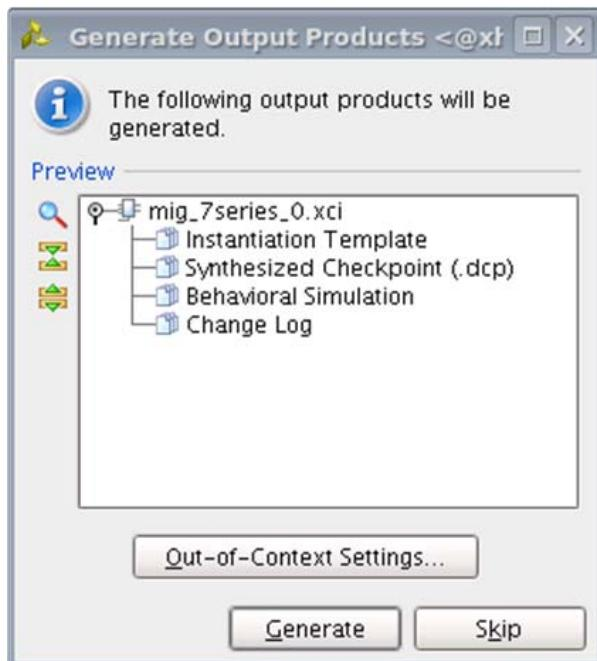

Figure 1-29: Generate Output Products Window
1. After clicking **Generate**, the **Generate Output Products** window appears. This window has the **Out-of-Context Settings** as shown in Figure 1-29.